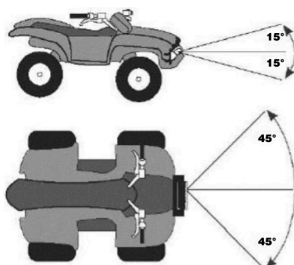

Fig. 8
- a. Operate only in straight lines. Do not operate on angles (Fig. 8).